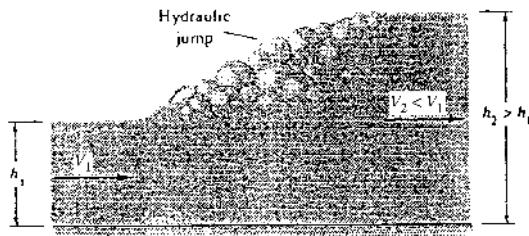

Fig. P3.102
**3.102** As can often be seen in a kitchen sink when the faucet is running, a high-speed channel flow ( $V_1, h_1$ ) may “jump” to a low-speed, low-energy condition ( $V_2, h_2$ ) as in Fig. P3.102. The pressure at sections 1 and 2 is approximately hydrostatic, and wall friction is negligible. Use the continuity and momentum relations to find  $h_2$  and  $V_2$  in terms of  $(h_1, V_1)$ .